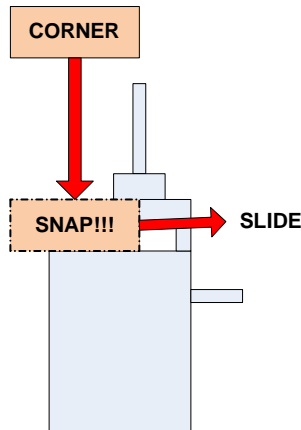

Figure 68 How the corners "Snap-Slide" into place
3. "Snap-Slide" the corner covers into place. The corners first "snap" into place by pushing them down, and then you slide them forward into position (see Figure 68).